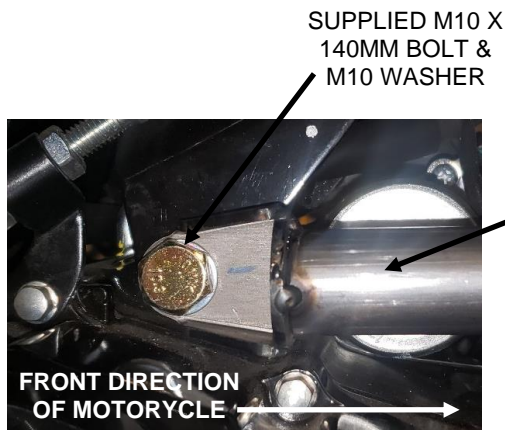

FIGURE 6A
9. Complete installation of the right-side freeway bar strut by inserting the provided M10 x140 hex bolt through the provided 10mm washer, through the rear strut bracket, and through the upper engine mount on the motorcycle. See **Figure 6A**. *Note: Do not yet install the provided 10mm nut.*